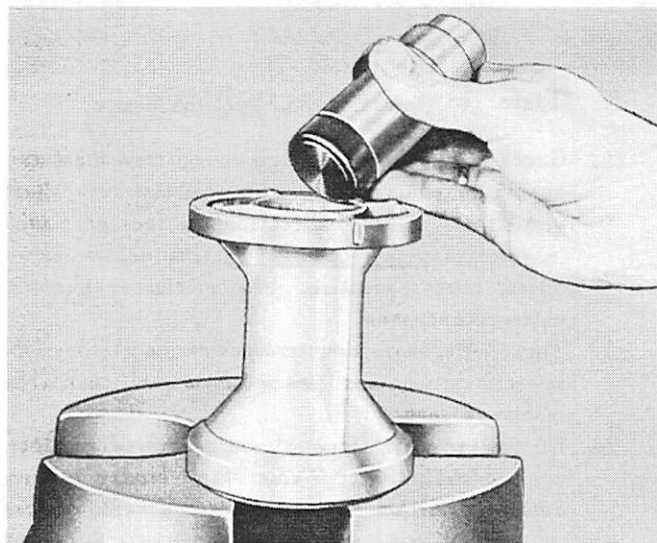

Figure 13. Installing Roller Bearings in Carrier
1. Press roller bearings into bearing carrier from rear of housing with Needle Bearing Driver (C-91-31109). (Figure 13) Press first bearing in with long end of Needle Bearing Driver, second bearing with short end of tool.